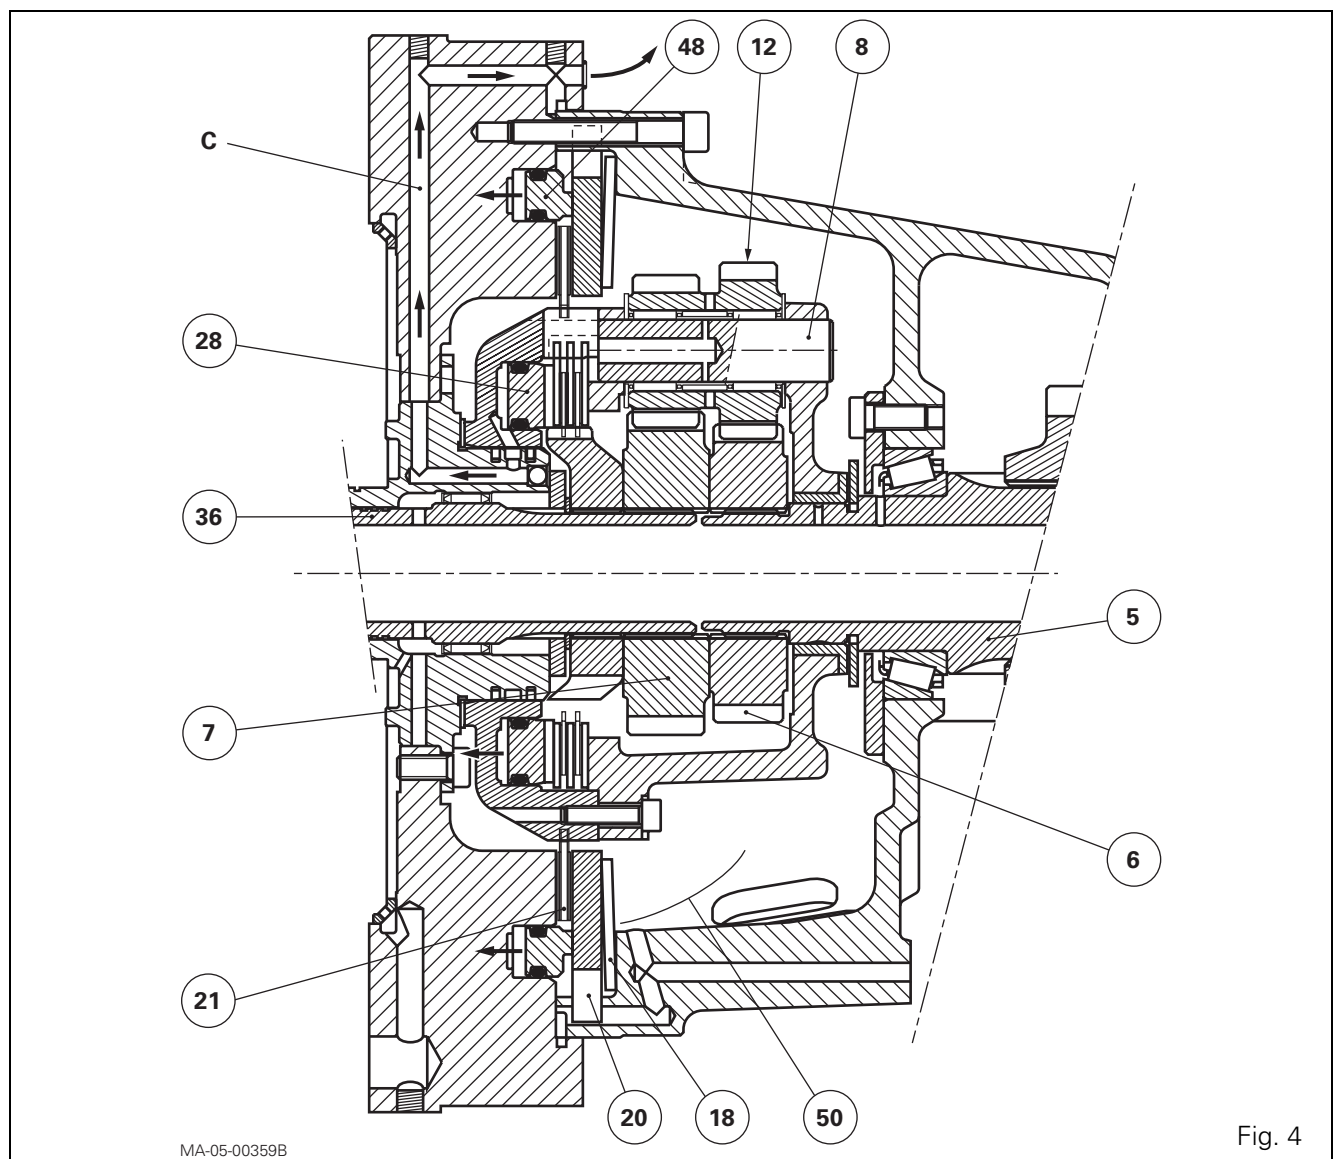

Fig. 4
In this position (Fig. 4), the hydraulic components are not supplied and the Speedshift operates in a mechanical manner. The oil in the chamber of pistons (28) and (48) returns to the housing via channel "C" and the solenoid valve mounted on the Power Shuttle clutch unit. This clutch unit is located on the front right-hand side of the gearbox (see chapter 9).